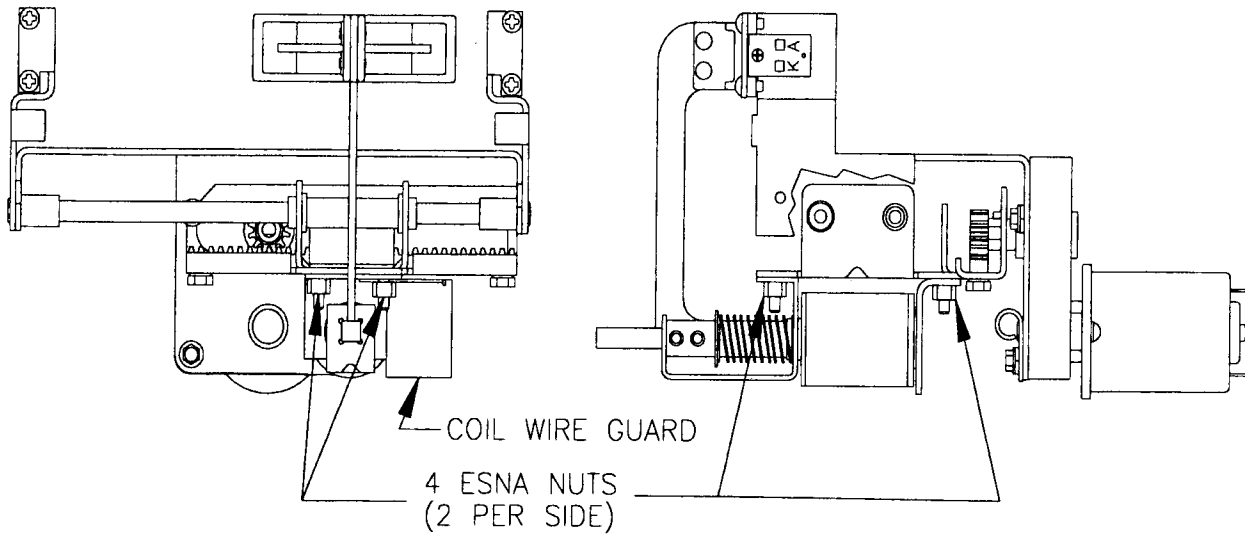

Fig. 3
a. Remove four (4) #8 ESNA nuts that secure coil mounting bracket and coil stop brackets.
b. Coil wire guard may then be removed. (See Fig. 3)